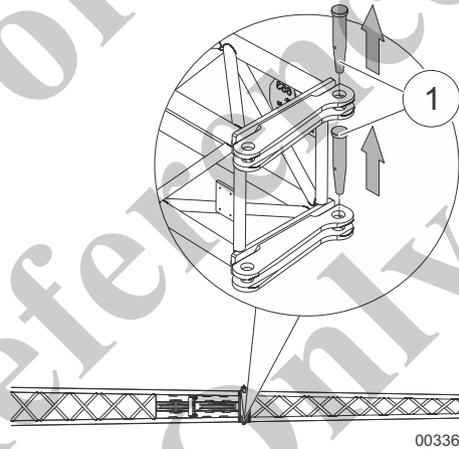

Fig. 164 Unbolting the fly boom head
13 Release and drive out the bolts (1) in Fig. 164 on the right between the fly boom and the fly boom extension.